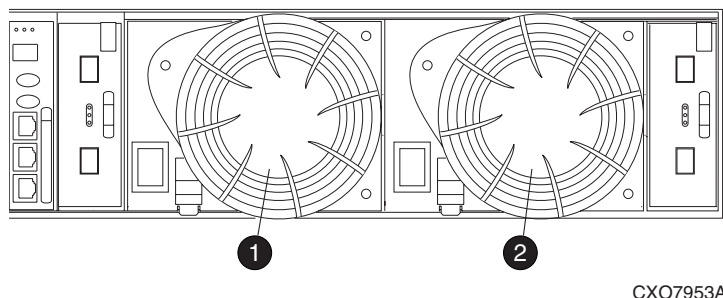

Figure 66: Blower element numbering
As shown in Figure 66, blower 1 is in location ❶ and blower 2 is in location ❷.